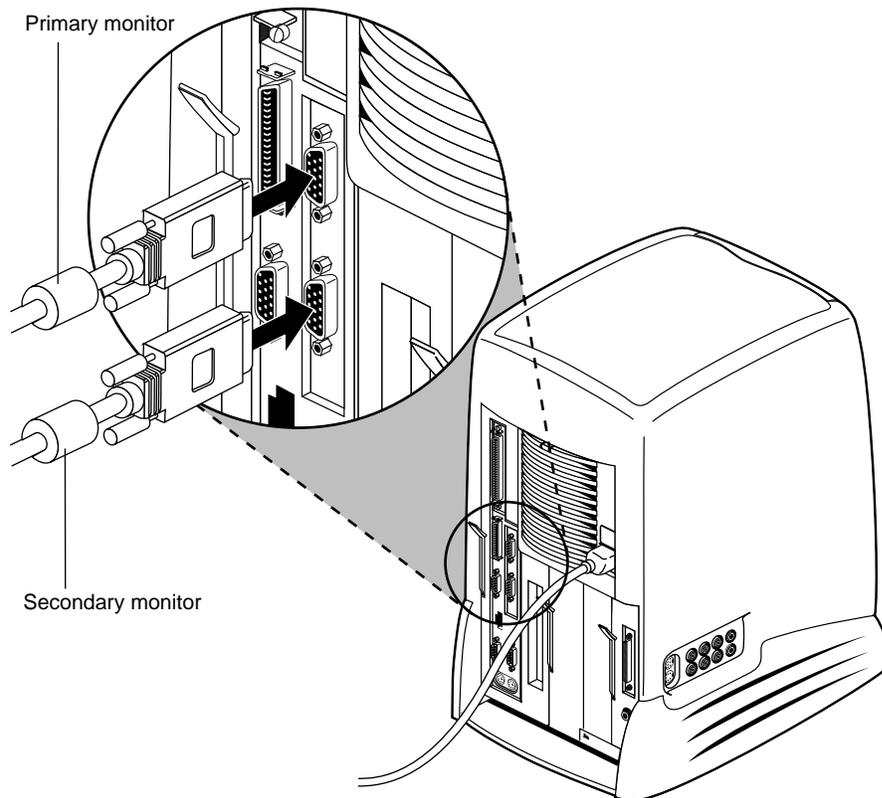

Figure 2-4 Connecting the Monitor Cables to the Workstation
1. Connect the video cable from the primary monitor to the top connector (channel 0) on the dual channel display board (Figure 2-4). Channel 0 drives the left monitor with the image from the top of the frame buffer.
2. Connect the video cable from the secondary monitor to the bottom connector (channel 1) on the dual channel display board (Figure 2-4). Channel 1 drives the right monitor with the image from the bottom of the framebuffer.